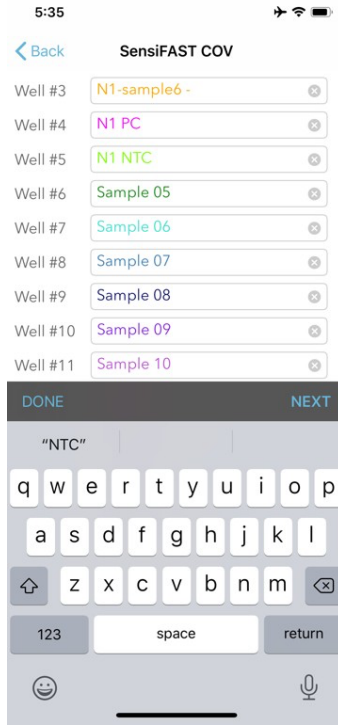

Figure 15: Enter sample details.
- 1.3.4. Click on the green **Name Wells** tab to bring up the sample identifier panel (**Figure 15**). The 16 wells are listed. Wells 1 – 8 and 9 - 16 represent the wells from left to right on the lower and upper strips respectively (**Figure 15A**). Enter sample/patient identifiers for each well. Click on the (x) to clear existing name or simply delete existing data and enter new name.